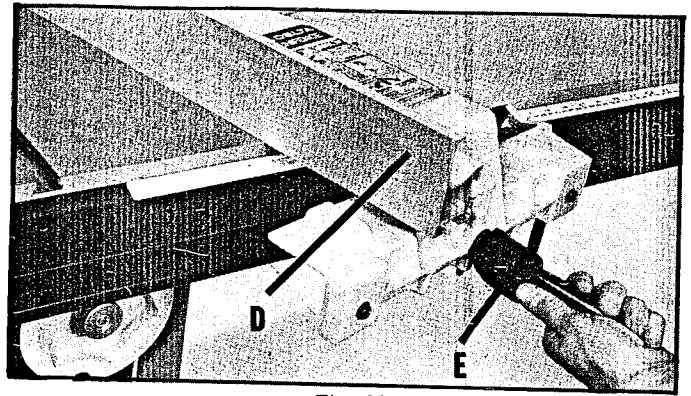

Fig. 69
To remove the fence and fence body assembly (D) Fig. 69, from the guide rail, lift up on fence clamping lever (E) and turn lever (E) to the left indent position. The fence assembly (D) can then be pulled straight off the guide rail and removed, as shown in Fig. 69.